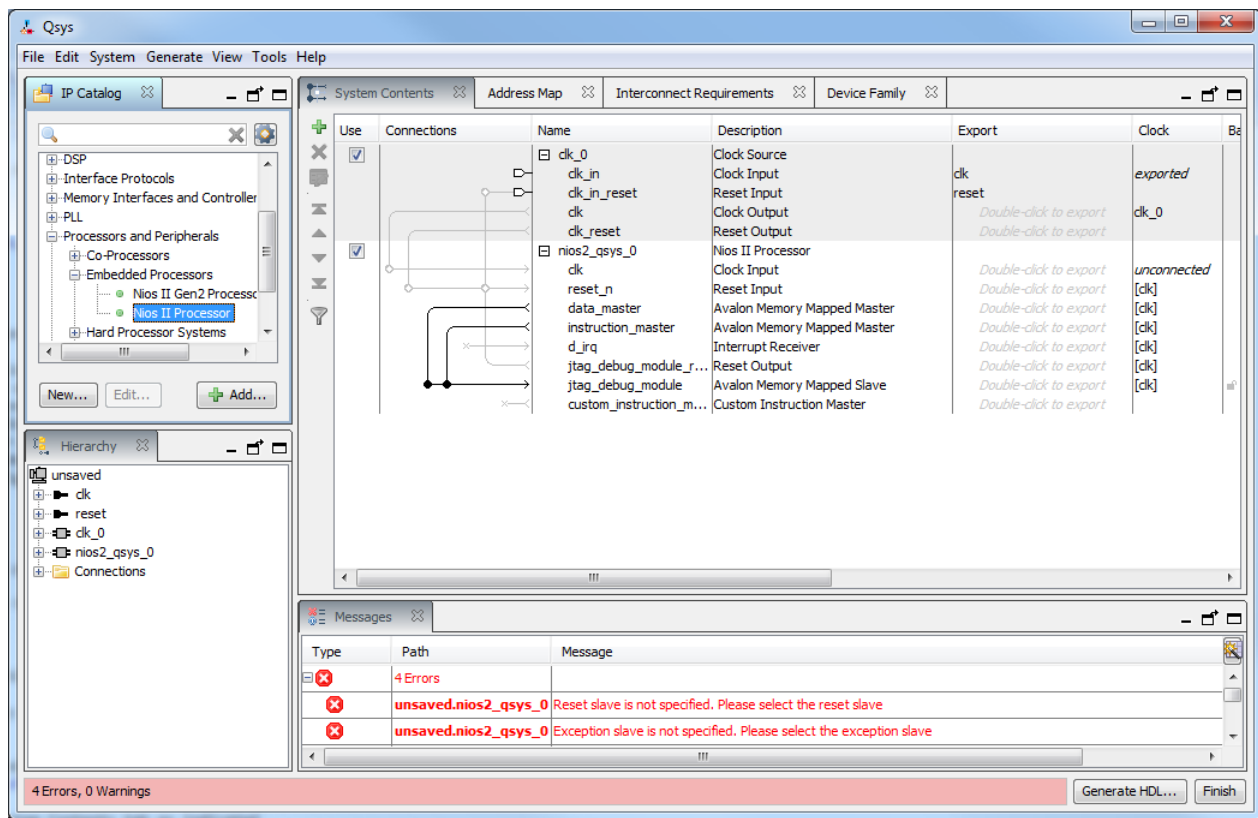

Figure 6. Inclusion of the Nios II processor in the design.
- Choose Nios II/e which is the economy version of the processor. This version is available for use without a paid license. The Nios II processor has reset and interrupt inputs. When one of these inputs is activated, the processor starts executing the instructions stored at memory addresses known as reset vector and interrupt vector, respectively. Since we have not yet included any memory components in our design, the Qsys tool will display corresponding error messages. Ignore these messages as we will provide the necessary information later. As of Quartus II version 14.1, you must disable the Include reset_req signal for OCI RAM and Multi-Cycle Custom Instructions setting in the Advanced Features tab to ensure proper operation. It is important that the checkbox is unchecked, otherwise you will experience issues when loading programs onto the system using the Altera Monitor Program. Click Finish to return to the main Qsys window, which now shows the Nios II processor specified as indicated in Figure 6.